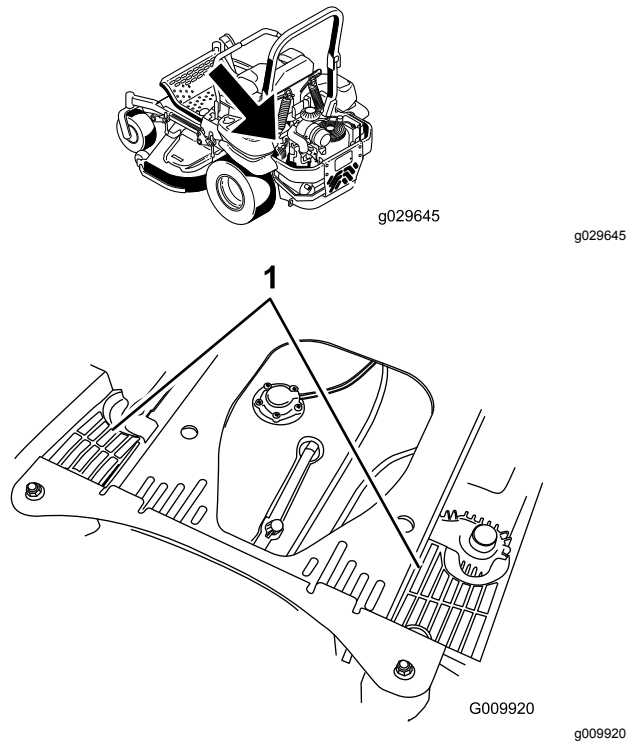

Figure 79
4. Clean the debris and grass from the hydraulic units (Figure 79).